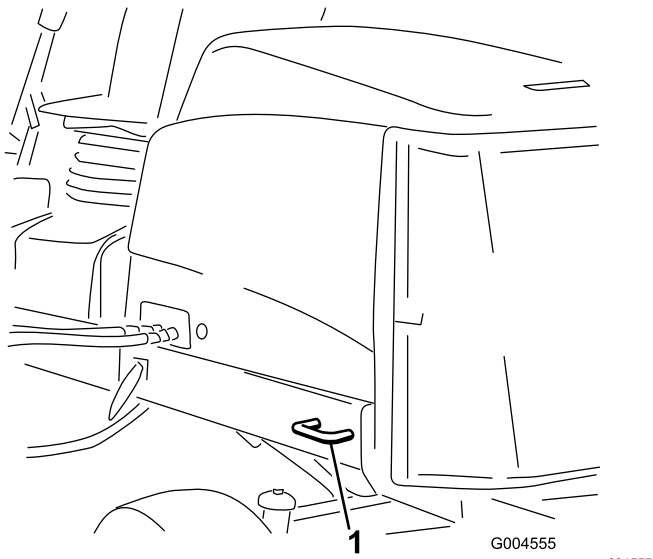

Figure 24
- **Rear of the machine**—each side of the machine on the rear frame (Figure 24).